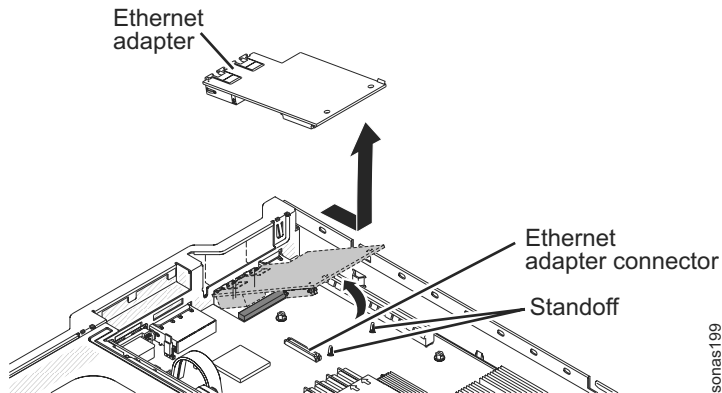

Figure 13. Removing the Ethernet adapter
6. Grasp the Ethernet adapter and disengage it from the standoffs and the connector on the system board; then, slide the Ethernet adapter out of the port openings on the rear of the chassis and remove it from the server. See Figure 13 on page 103.